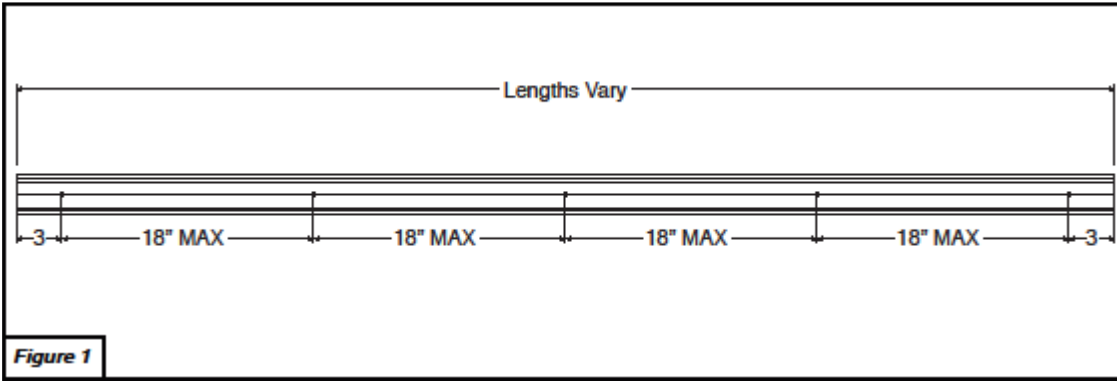

Figure 1
1. Drill a 1/4" hole along the center groove in the *Velcro Track* (B). Holes should be spaced 3" from each end of the *Velcro Track* (B) and approximately 12"-18" apart. See Figure 1.
3. Once you have determined the desired wall pad position, strike a level line on the wall for what will be the bottom of the wall pad when installed. Using the bottom of the *Wall Track* (B) as a guide, position the *Wall Track* (B) onto of the level line and mark the wall through each 1/4" hole. Carefully drill concrete wall at each location with a 3/16" masonry bit.